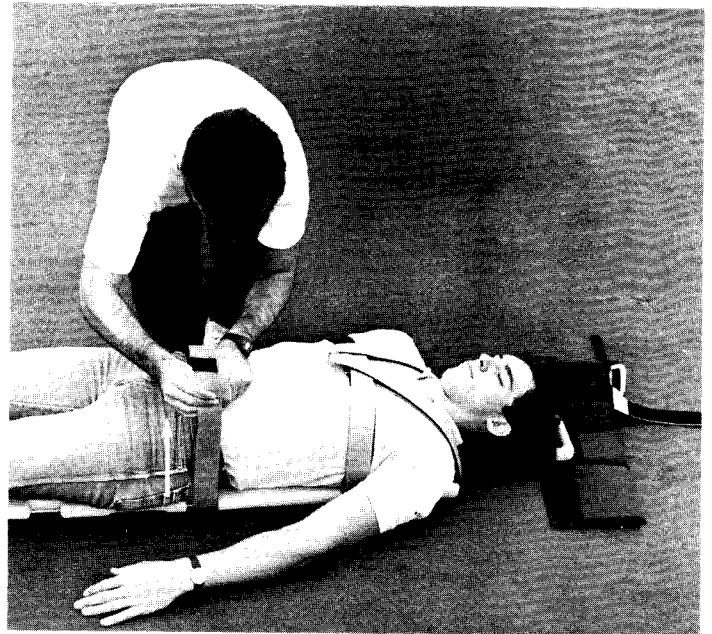

Figure 5.2
- 5.3 Hands may be placed outside the torso strap and rested on the victim's chest. (Figure 5.2)